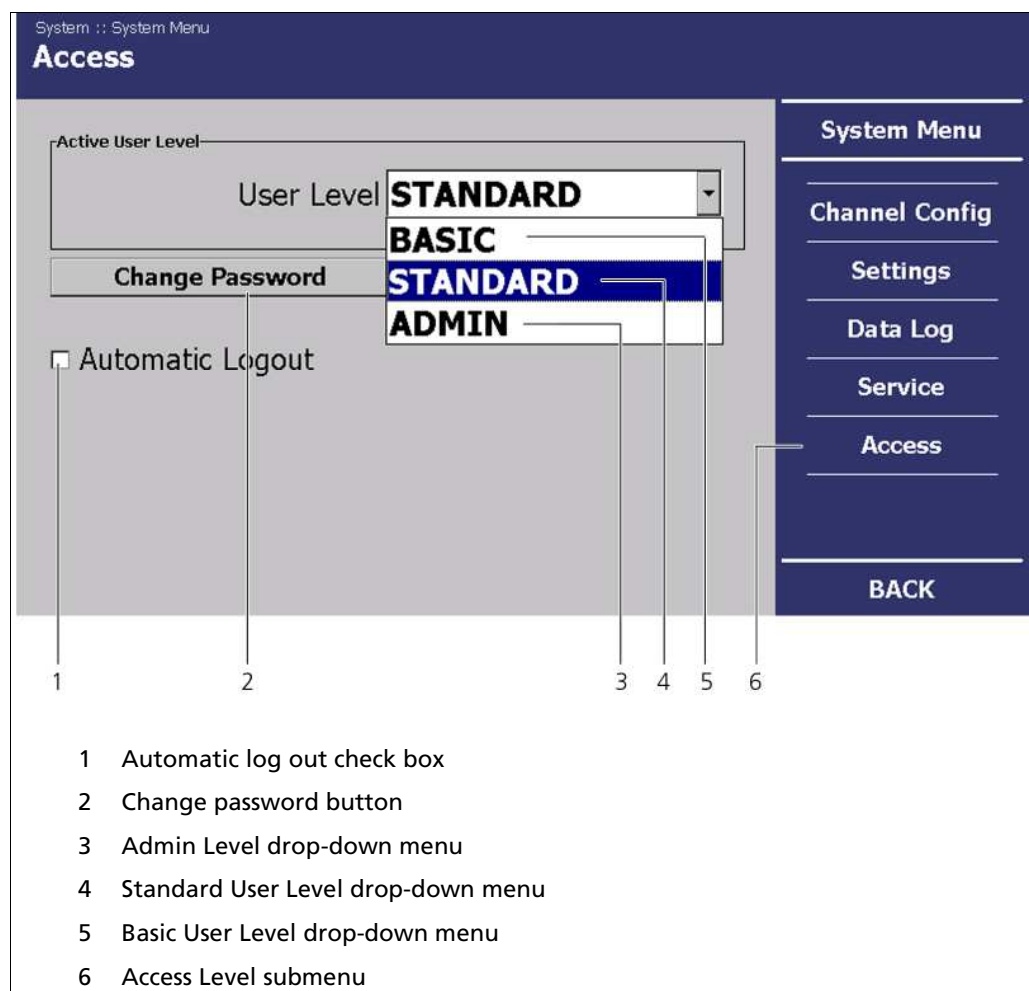

Fig. 47 System Menu, Access Level
2. Select **Standard** in the drop-down menu of the "User Level" field (Fig. 47, Pos. 5).
3. Click on **<Change Password>** (Fig. 47, Pos. 2).